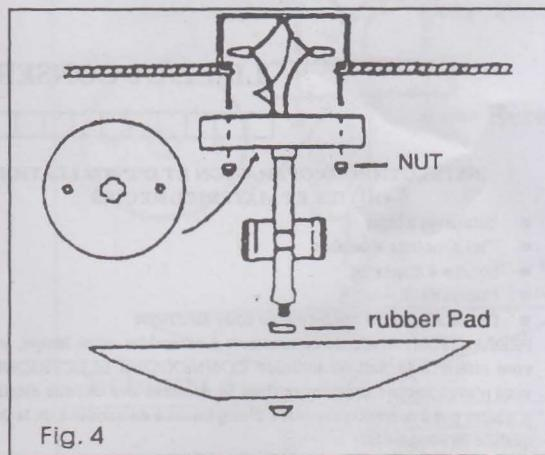

Fig. 4
4. If applicable, attach shades to fixture. Some shades require the use of shade attachment screws. Do not overtighten these screws -too much pressure could cause glass breaking. See Fig. 4 for placement of fabric spacer, not supplied on all models.